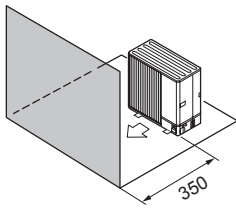

Fig. 4-27
- ④ Obstacles at front only (Fig. 4-27)